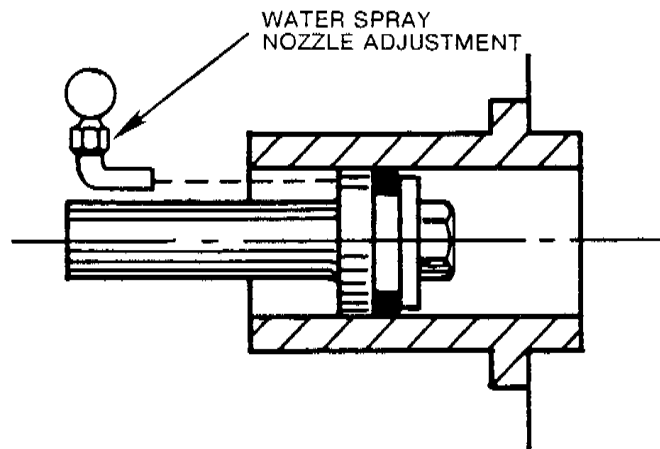

FIGURE 15
3. The stream of water from each nozzle should be aimed so that the stream enters the mouth of the cylinder liner, near the inner top surface of the liner (See Figure 15.)